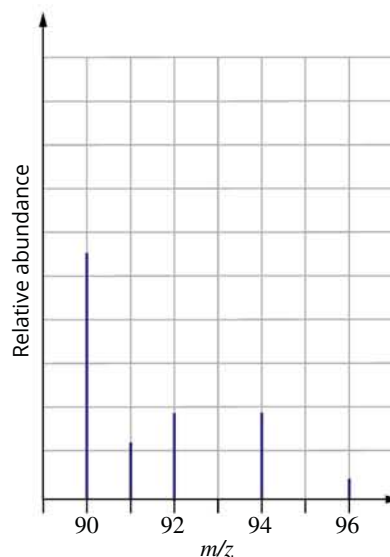

FIGURE 5.1.9 The mass spectrum of zirconium.
- 4 The mass spectrum of zirconium is shown in Figure 5.1.9.